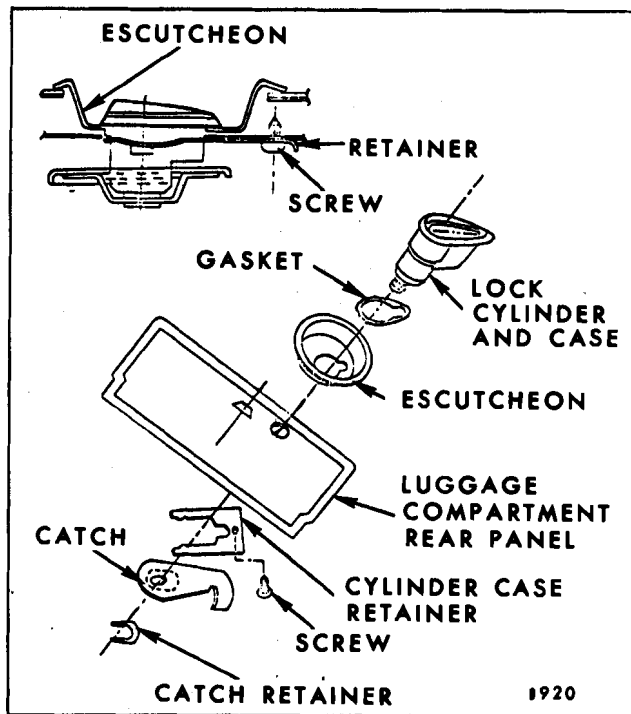

Fig. 14-72-Luggage Compartment Lock - "A" Body Styles
until cylinder can be removed from case (Fig. 14-72).
2. On underside of luggage compartment rear panel, remove catch retainer and catch (Fig. 14-72).
3. Remove lock cylinder case retainer screw and retainer; then, remove lock cylinder and case, gasket and escutcheon from panel (Fig. 14-72).